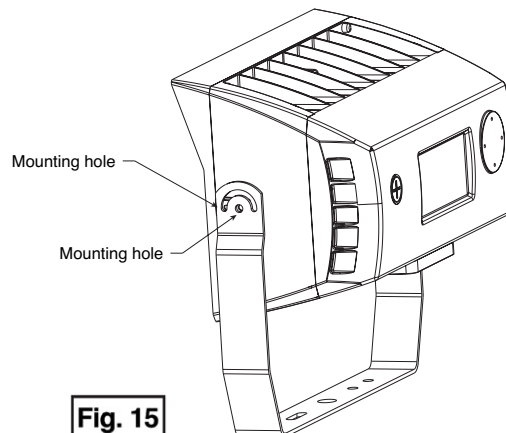

Fig. 15
- 3.) Place the yoke mount onto the fixture. Align the holes on the side of the fixture with the mounting holes in the yoke mount. Adjust the yoke to the desired angle. (Fig. 15)